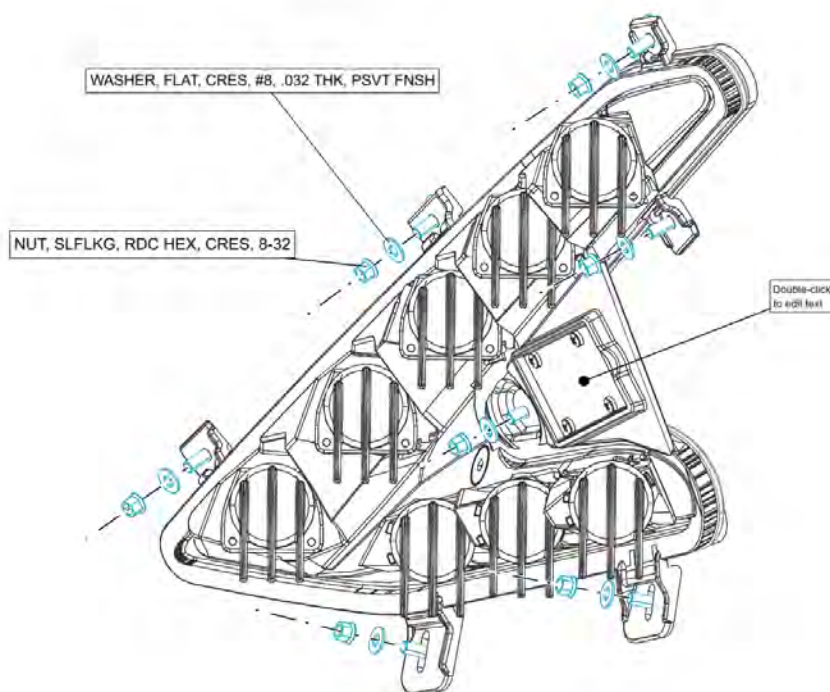

FIGURE 6-16
1. Install LH and RH light assembly onto existing studs as shown using retained washers and nuts. See Figure 6-16.